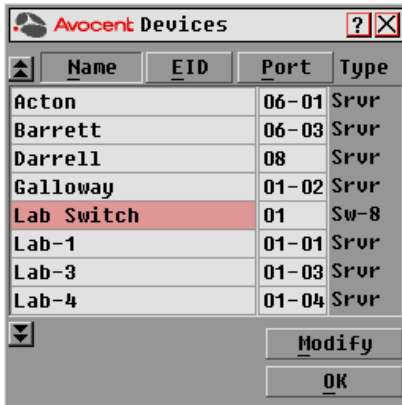

Figure 3.8: OSCAR Interface Devices Dialog Box
1. Activate the OSCAR interface and click *Setup - Devices* to open the Devices dialog box shown in Figure 3.8.